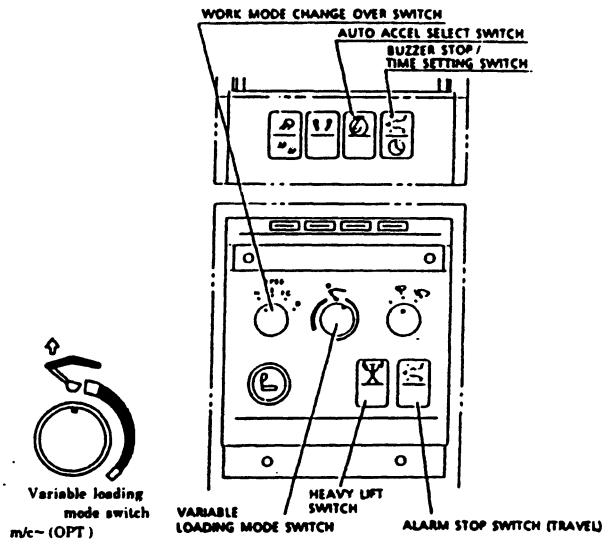

Fig. 2 Control board
- 1) With the buzzer stop switch turned to "ON", turn the starter key switch to "ON". However, keep the engine stopped. (See Fig. 2.)